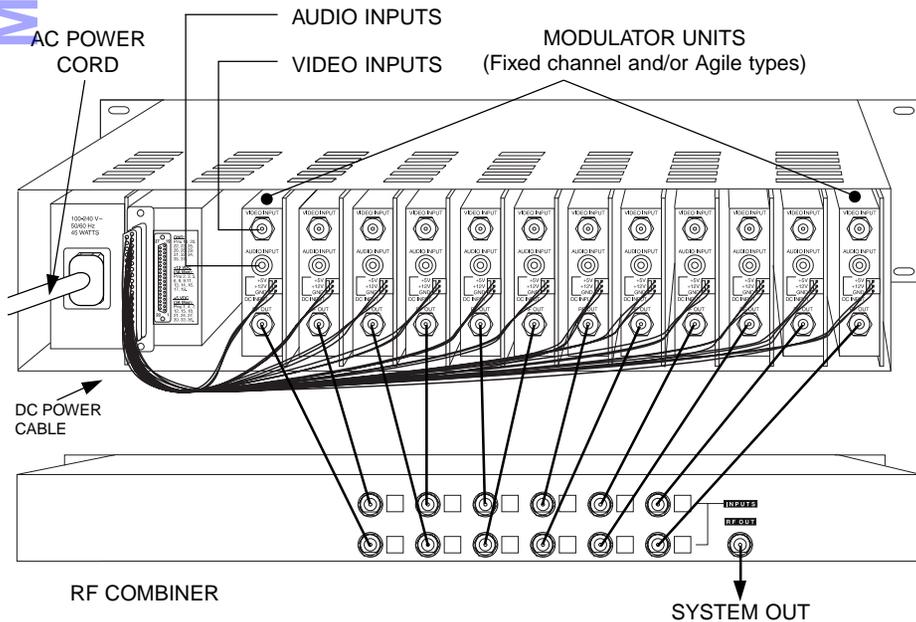

Figure 4
All connections to and from each modulator are made through the rear panel. Figure 4 illustrates an installation with (12) modulator units combined through a passive signal combiner. Additional channels can be added by using additional fixed channel or agile type modulators and either multi-port combiners or combinations of two-port combiners.